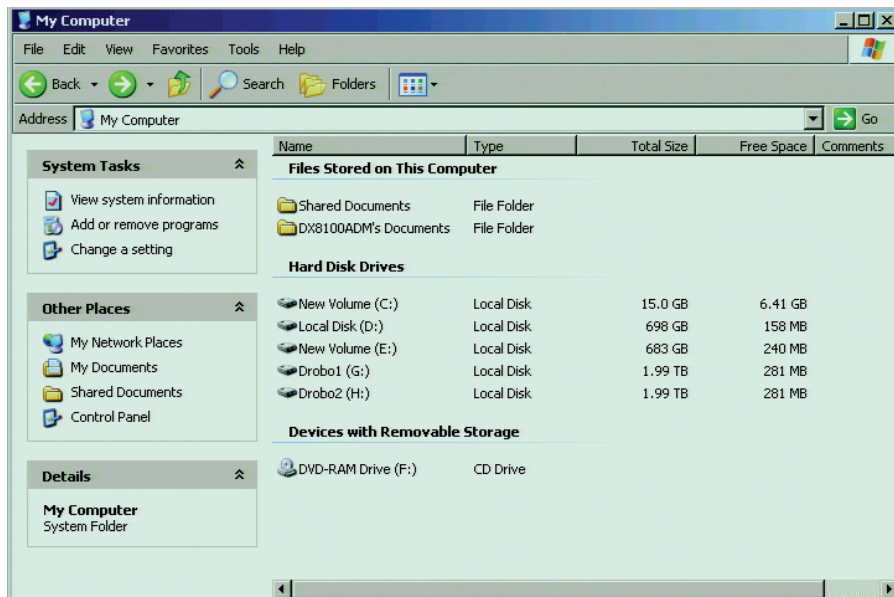

Figure 82. Example: Drobo JBOD Drives (G: and H:)
6. Open Windows Explorer and verify that the JBOD drive is listed in the Explorer window. For example, the Drobo™ drives are listed in Figure 82.